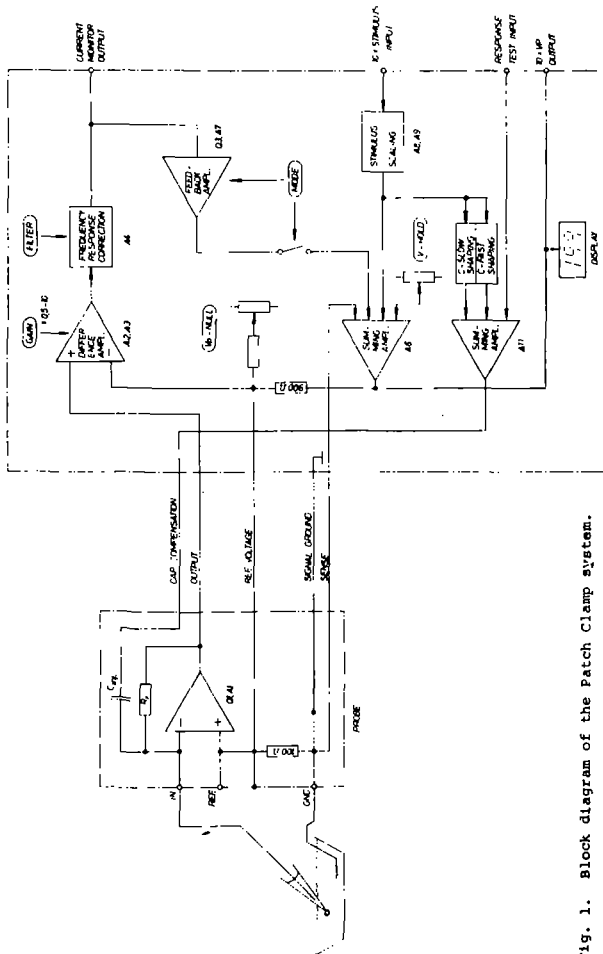

Fig. 1. Block diagram of the Patch Clamp system.
Figure 1 shows a simplified diagram of the circuitry of the Patch Clamp. It consists mainly of a current-to-voltage converter (A1) in the probe, which measures the pipette current, and circuitry in the controller for amplifying and filtering the current signal and for controlling the pipette potential.
1. The GND connector on the probe is the high-quality, sensed ground line that should be used to ground the bath electrode. It can also be used to ground other parts of the setup (e.g. the microscope) provided no large ground currents are expected. Note: in some situations the bath electrode must also be grounded to other apparatus (for example, to a microelectrode recording system). To avoid ground loops currents, a jumper wire in the probe (indicated by the dashed line in Fig. 1) can be cut. In this case the probe's GND connector becomes a sense input line only; the ground return must be provided separately, through the other apparatus.